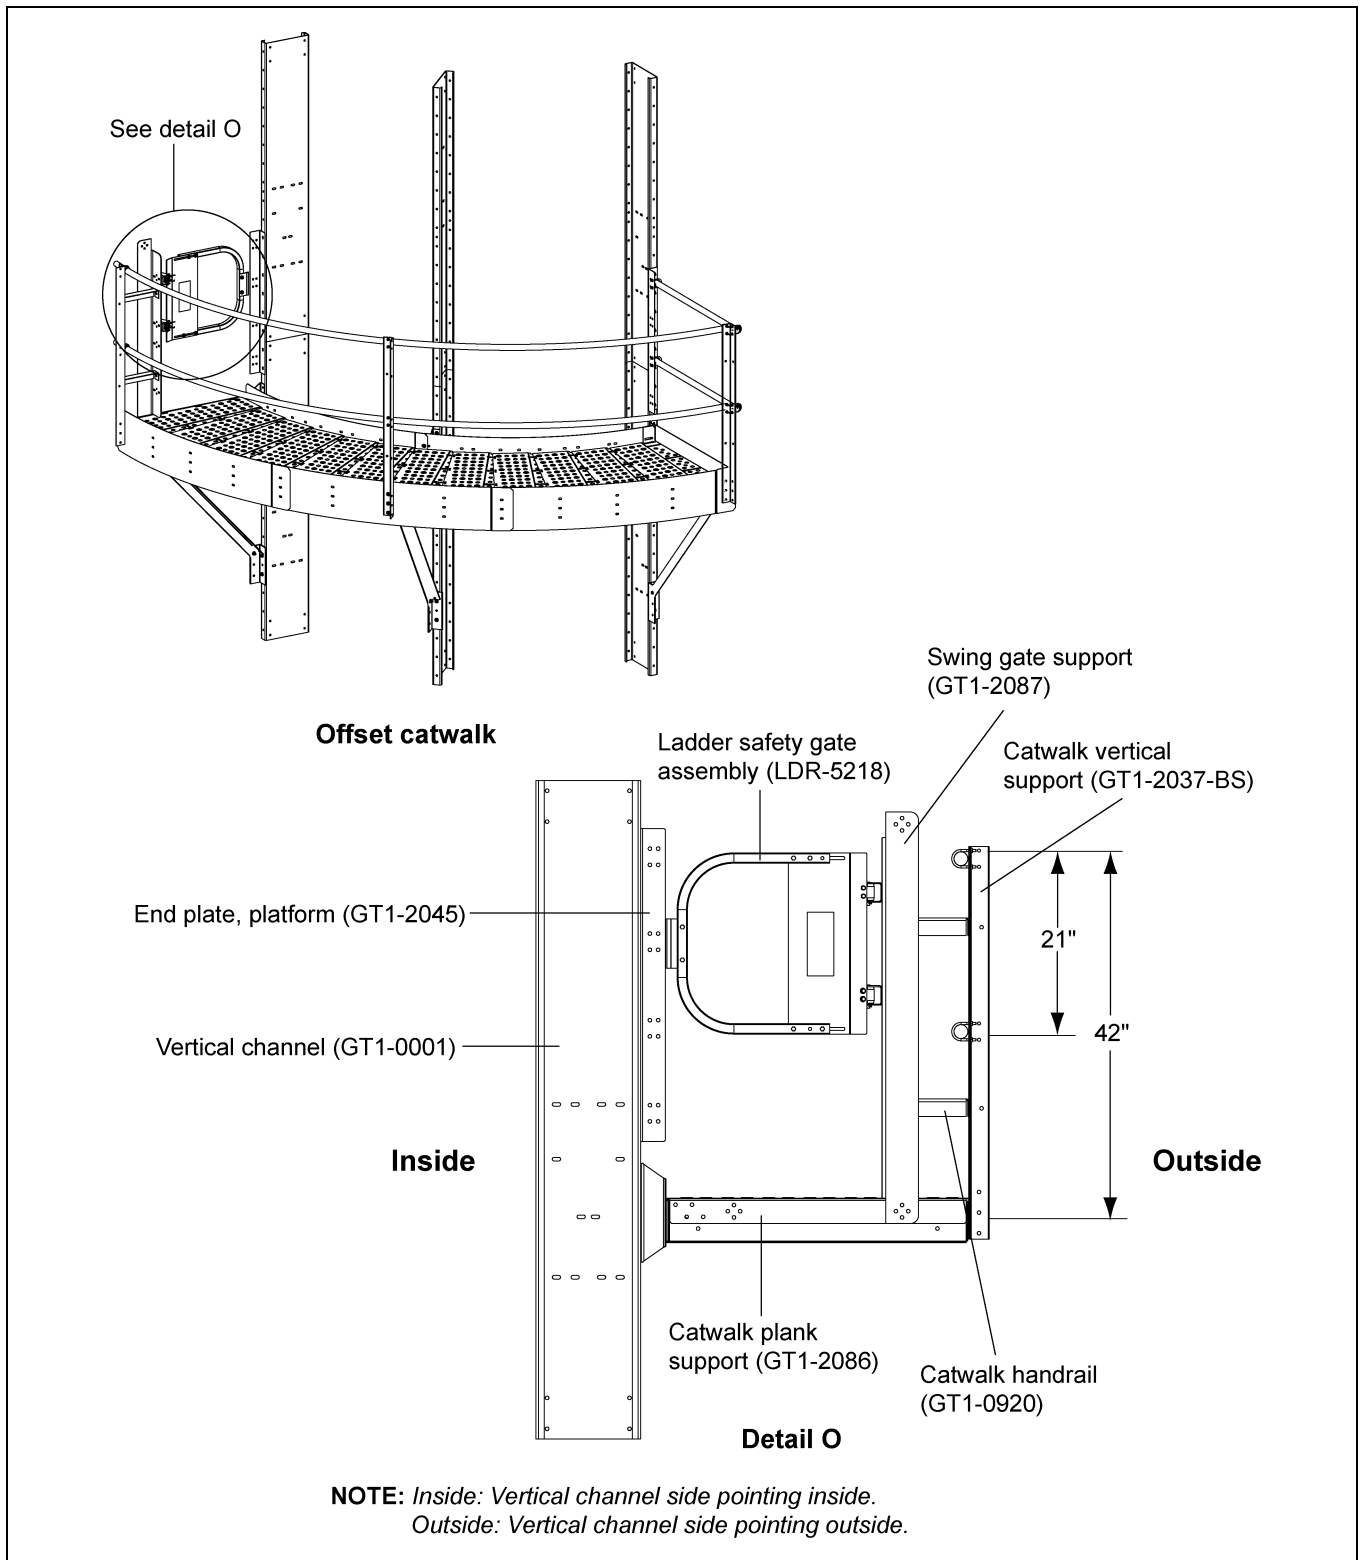
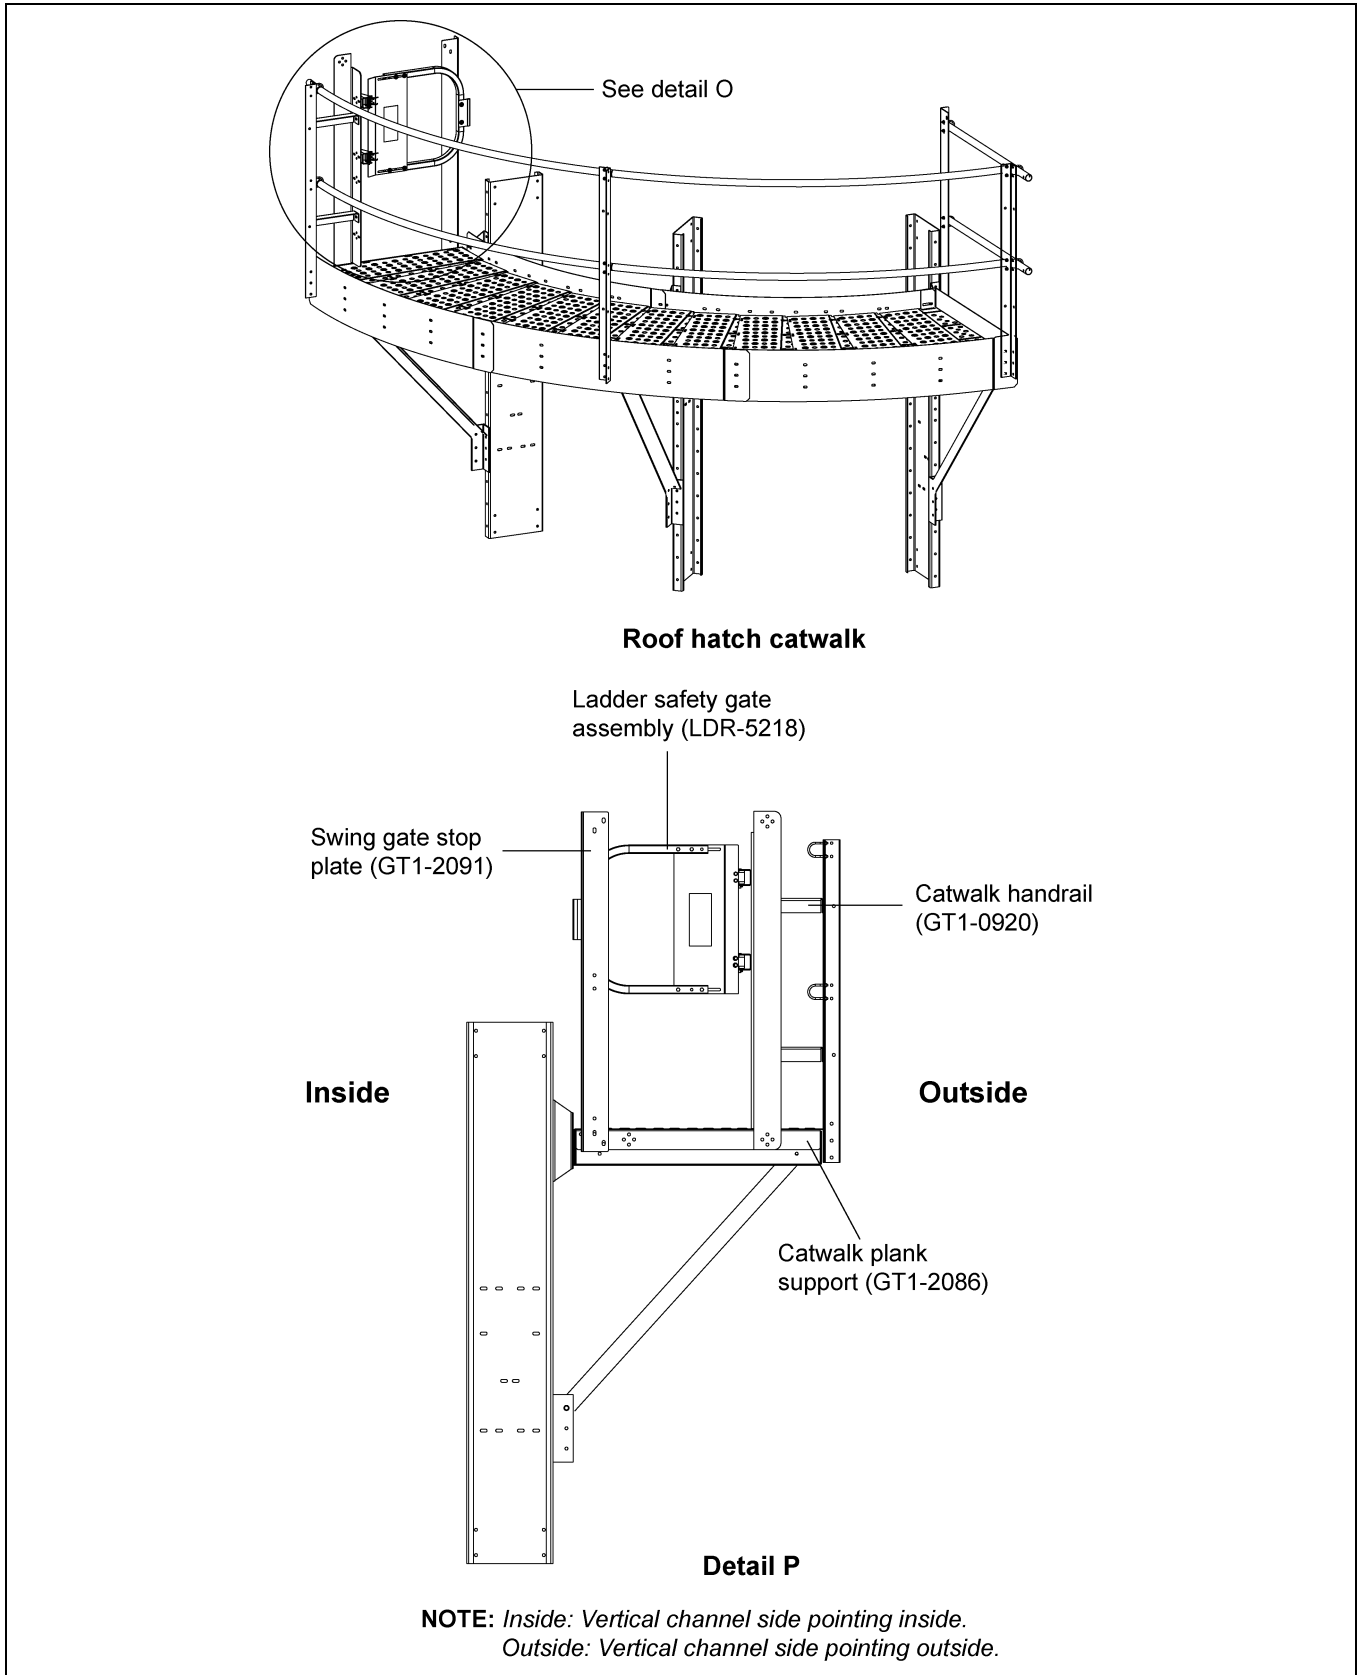

Figure 6Y Offset Ladder Safety Cage Assembly to Swing Gate Support (GT1-2087)
Figure 6Z Roof Hatch Ladder Safety Cage Assembly to Swing Gate Stop Plate (GT1-2091)
3. Install the ladder safety gate assembly (LDR-5218) to the swing gate support (GT1-2087) using 3/8"-16 x 1" JS grade 8 or grade 8.2 bolts (S-7485) and 3/8"-16 ZN grade 5 nuts (S-968). The distance between the plank and handrail is 42". (See Figure 6Y below and Figure 6Z on Page 64.)